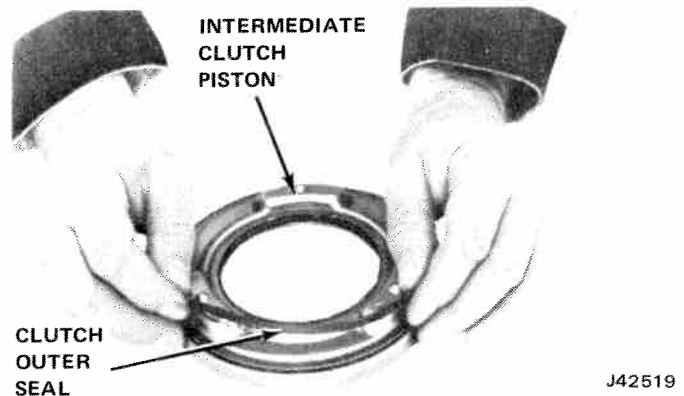
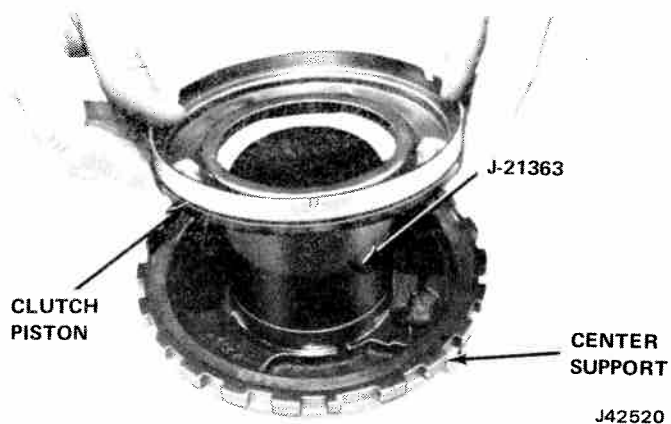

Fig. 7-89 Installing Outer Seal on Intermediate Clutch Piston
Fig. 7-90 Intermediate Clutch Piston Installation
(2) Install new outer seal on piston with lip of seal facing away from spring pocket (fig. 7-89).
(3) Place Inner Seal Protector J-21363 on hub of center support.
(4) Install intermediate clutch piston on center support, indexing spring pockets of piston into cored areas of center support (fig. 7-90). Wipe outer seal with smooth screwdriver blade while installing.